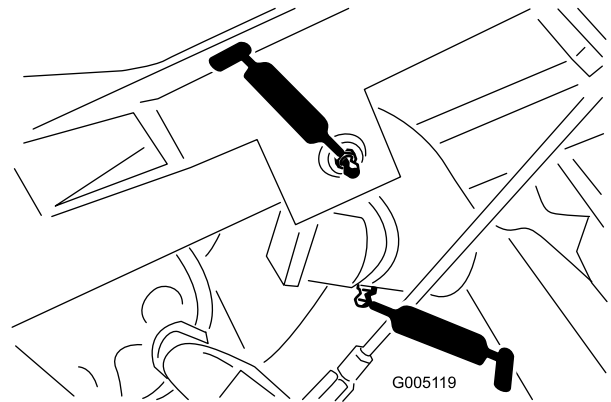

Figure 40
- Lift arm pivot (3) and pivot hinge (3) (Figure 40)